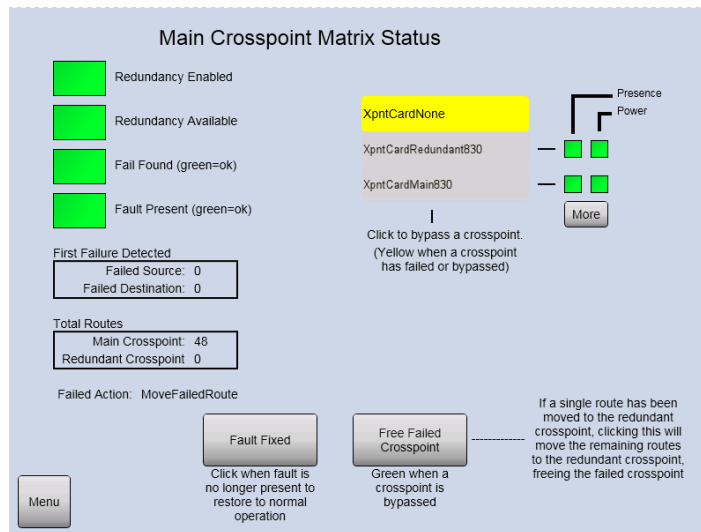

Figure 50 Sirius 830 Crosspoint Matrix Status and Crosspoint Switching
- **Sirius 830** - see Figure 50 on page 80 for button and parameter locations.